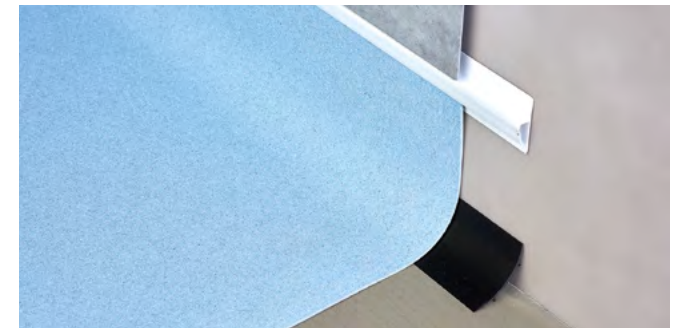

Figure 3.8 Fitting to Ceramic tiles
**3.14 FITTING TO CERAMIC WALL TILES (CT strip) Figure 3.8**